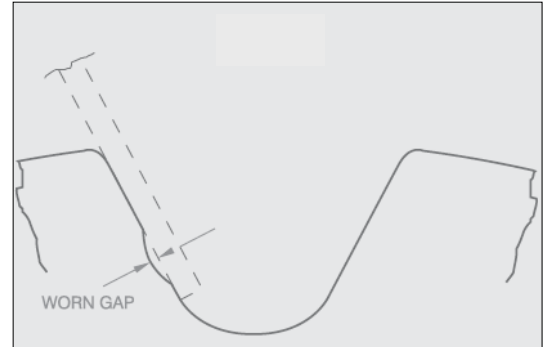

figure 9
- On larger sprockets, wear can be measured by holding a straight edge against the tooth flank and measuring the worn gap. (figure 9).